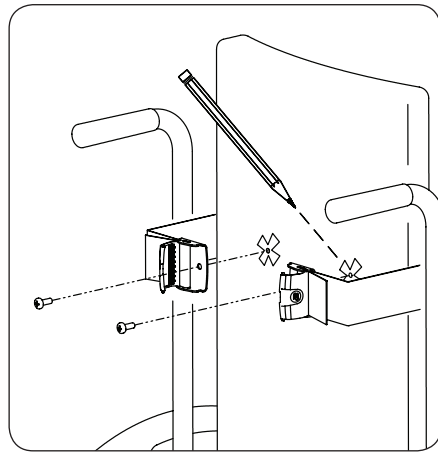

Fig. 2
1. Insert straps into end fittings. Wrap straps around backrest. Mark holes for reference. (Fig. 2)